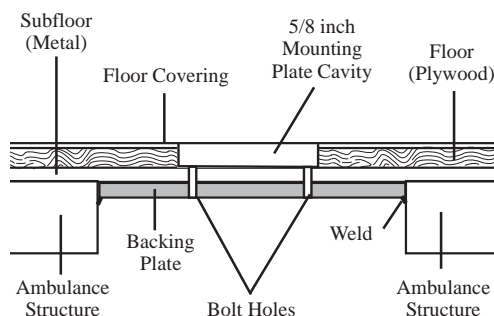

Figure 22 - Recessing the Floor for the Mounting Plates
1. Recess the floor $\frac{5}{8}$ " (16 mm) inside each template outline (Figures 22 and 23). You may want to use a router or saber saw to do this.
Note: Ambulance flooring styles vary widely. Consult the ambulance manufacturer for the proper method and tools to recess the floor for your style of ambulance. A typical ambulance floor cross-section is shown in Figure 22. Your ambulance floor may vary from this.